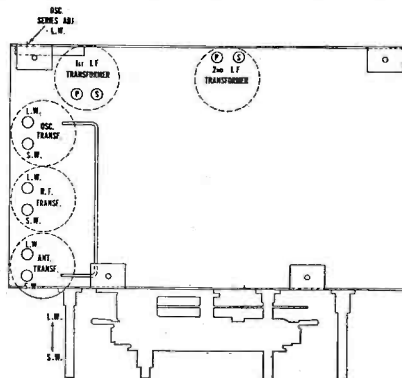

Fig. 2. Sketch of chassis, showing locations of short- and broadcast-wave adjusting condensers.
the adjustment screws are accessible as shown in Fig. 2. Proceed as follows:
(2). With the Range Switch at the "in" position, adjust the three trimmers under the three r-f coils designated as L.W. in Fig. 2, until a maximum deflection is obtained in the output meter. Then shift the test oscillator frequency to 600 kc. The trimmer condenser, accessible from the rear of the chassis should now be adjusted for maximum output while rocking the main tuning condenser back and forth through the signal. Then repeat the 1,400-kc adjustment.
(3). Now place the Range Switch at the "out" position, shift the test oscillator to 15,000 kc and set the dial at 150. Adjust the three trimmer condensers designated as "SW" in Fig. 2 for maximum output, beginning with the oscillator trimmer. It will be noted that the oscillator and first detector trimmers will have two positions at which the signal will give maximum output. The position which uses the lower trimmed capacity value, obtained by turning the screw counter-clockwise, is the proper adjustment for the oscillator, while the position which uses the higher capacity value is correct for the detector. *Both of these adjustments must be made as indicated irrespective of the output reading.* The r-f is merely peaked. In conjunction with the detector adjustment, it is necessary to rock the main tuning condenser back and forth while making the adjustment.
Circuit diagram and values for the Light-Line "Broadcaster." Fig. 2. shows the connections for the "receiver" circuit to be used with a public-address system.
In Fig. 2 is shown diagram of unit to be used with a p-a amplifier.